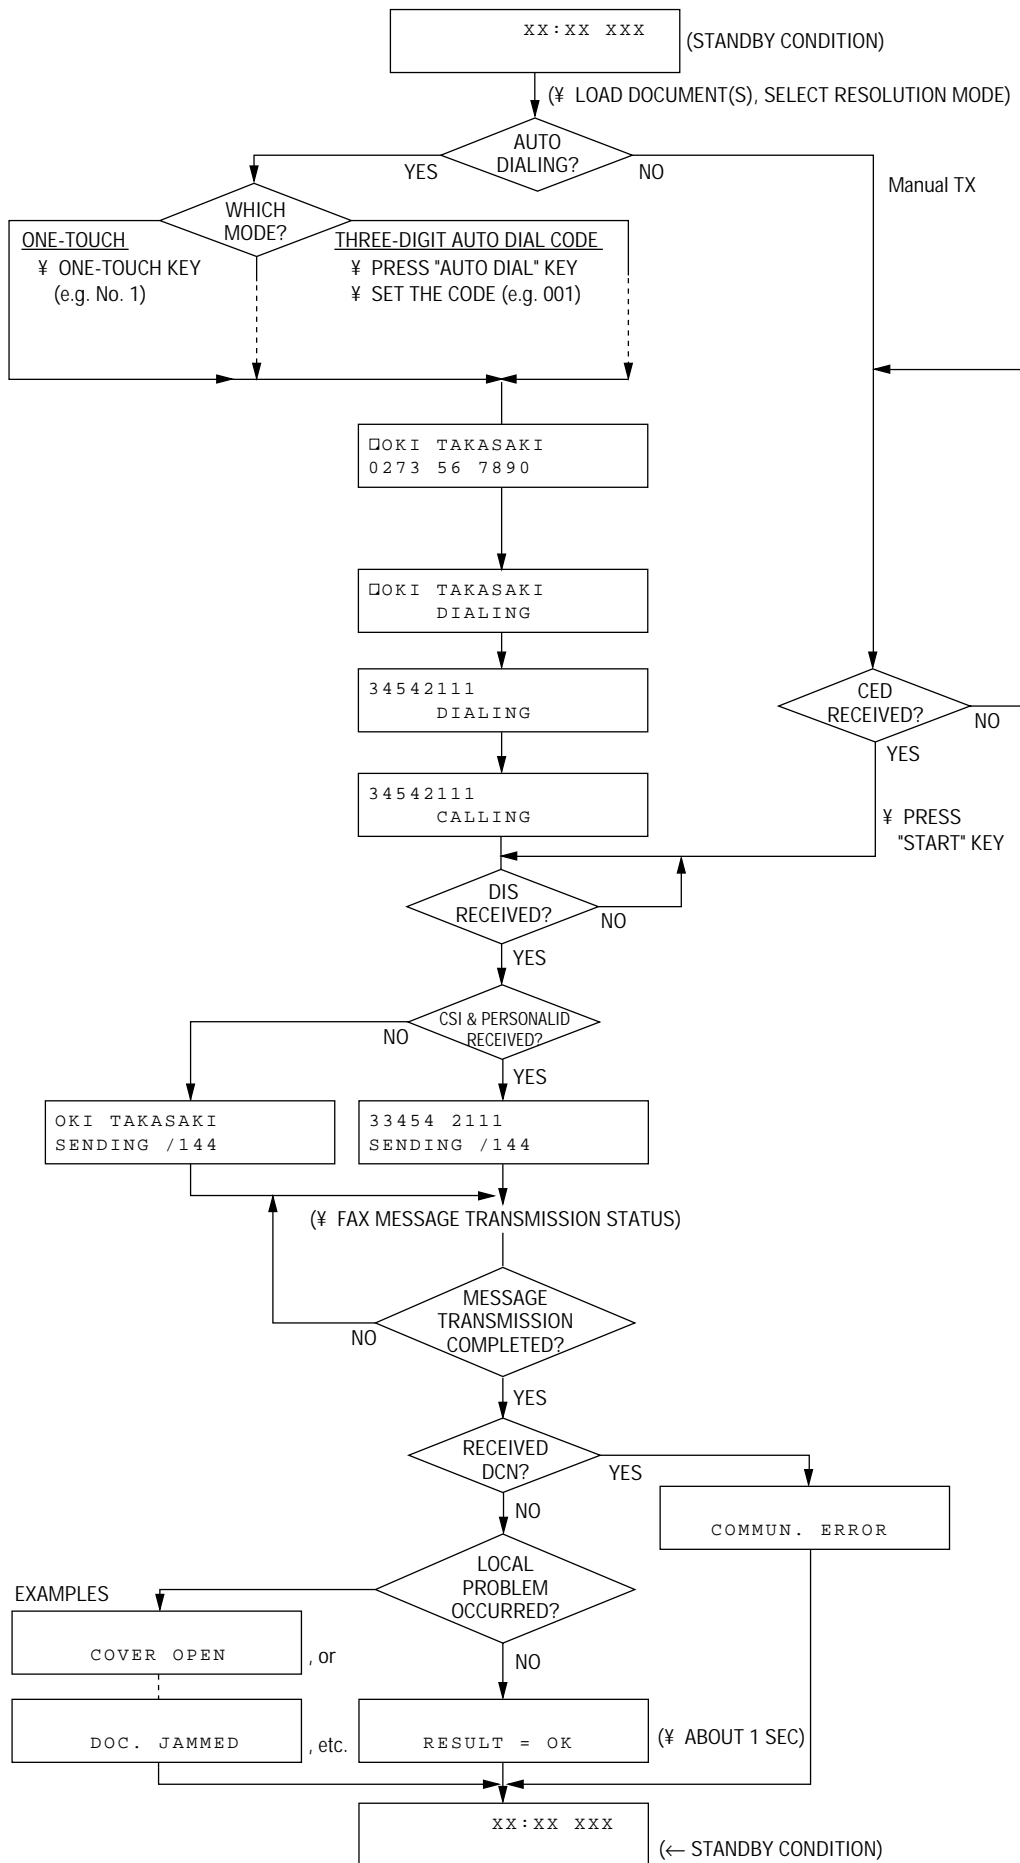

Figure 2.8 Typical Transmission Flow
- (1) Load documents
- (2) Make sure that
- (3) Dial the telephone number of the remote machine by the ten-key pad.
- (4) Make sure that the telephone number of the remote machine is shown on the display.
- (5) Press the START button.
- (6) Typical message transmission flow is described in Figure 2.8.